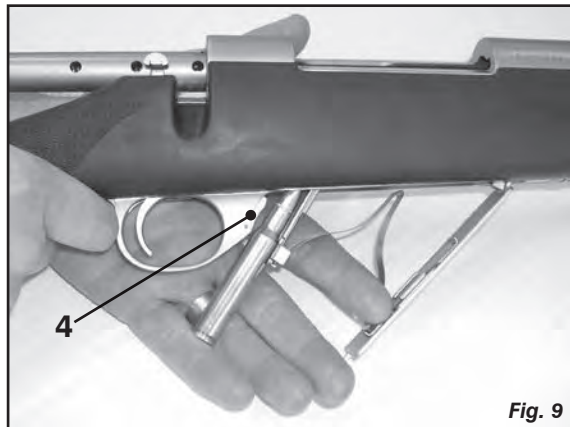

Fig. 9
3. Empty the magazine from below (Fig. 9). Hold one hand loosely under the floor plate to restrain it, and depress the floor plate catch (4). The hinged Floor plate will pop open, allowing the cartridges to be dumped into your hand. Look in the magazine and chamber to be sure that all the cartridges have been removed.